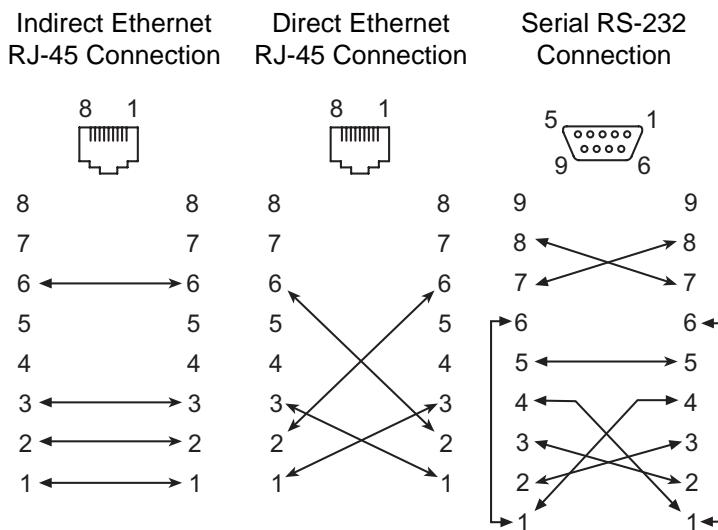

Figure 13 Management station and workstation cable connections
- b. Use a 10/100 Base-T straight cable to connect the switch Ethernet port to the LAN that connects your management station that will run Simple SAN Connection Manager (see Indirect Ethernet in Figure 13).
- Indirect Ethernet connection from the workstation to the switch RJ-45 Ethernet connector through an Ethernet switch or a hub. This requires a 10/100 Base-T straight cable (Figure 13).
- Direct Ethernet connection from the workstation to the switch RJ-45 Ethernet connector. This requires a 10/100 Base-T cross-over cable (Figure 13).
- Serial port connection from the workstation to the switch RS-232 serial port connector. This requires a null modem F/F DB9 cable (Figure 13). This connection supports the CLI only.